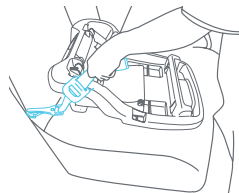

Fig. 49-2
5. Locate the **LATCH** anchors in the vehicle seat (Fig. 48-2). Once located, snap the Safety Seat **LATCH** connectors onto the steel rod. Listen for the click and check that both connectors are firmly attached to the anchor rods by pulling outward on the connectors (Fig. 49-2).
with your knee or hand on the Base while pulling upward on each webbing end. The webbing will automatically lock in place. Check that there is no slack in the webbing on both sides of the base and that the base is tightly installed (Fig. 49-2 and 49-3).